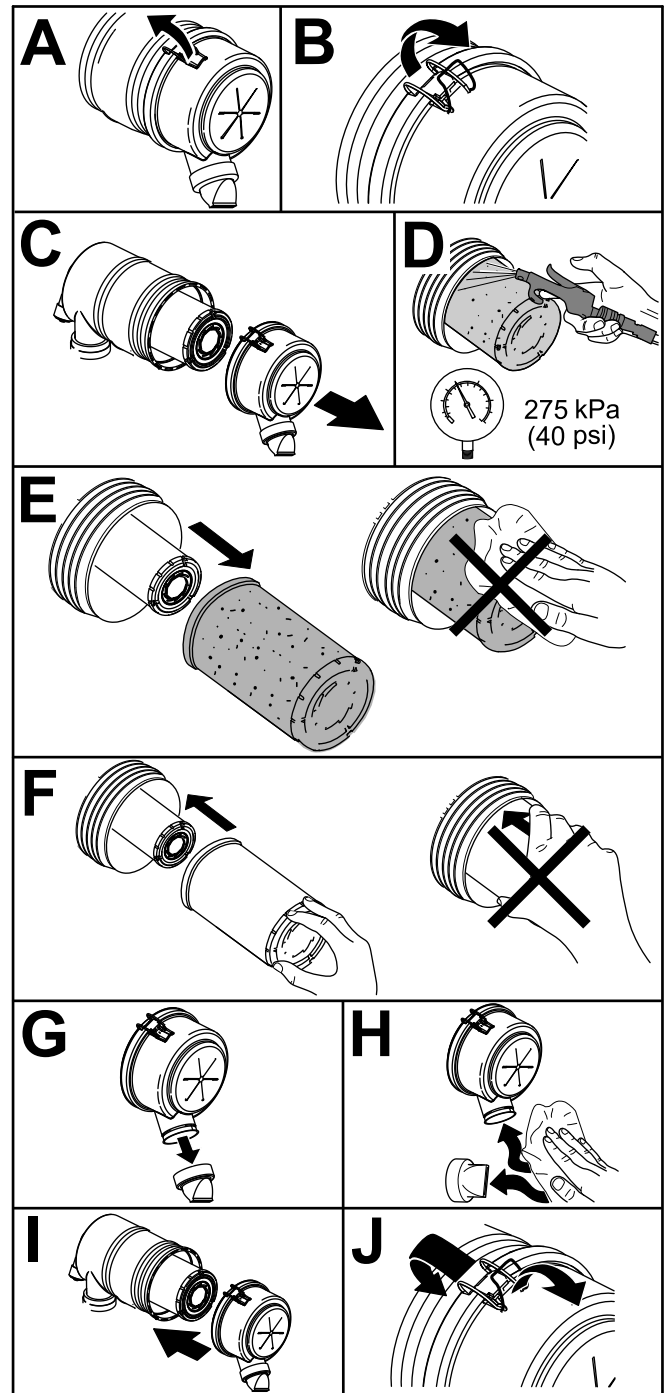

**Figure 55**
Service the air-cleaner element only when the restriction indicator (Figure 55) requires it. Changing the air cleaner element before it is necessary increases the chance of dirt entering the engine when you remove the element.
2. Reset the restriction indicator (Figure 55) if it shows red.